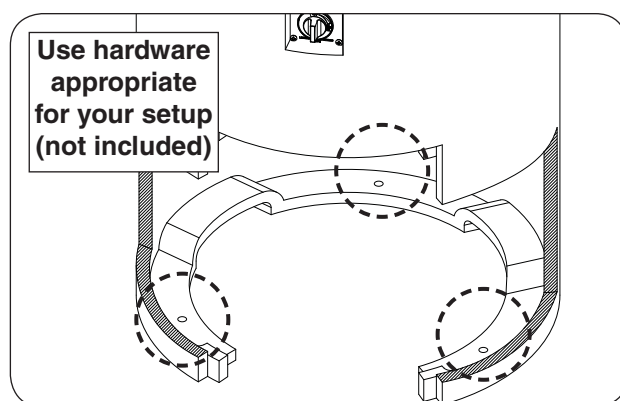

Fig. 20-4 Mount unit to floor
1. Using appropriate mounting hardware for the floor material/construction, secure the unit into the floor. The interior of the unit has three  $1/2$ " holes that will allow for the unit to be fastened to the floor. See Fig. 20-4.